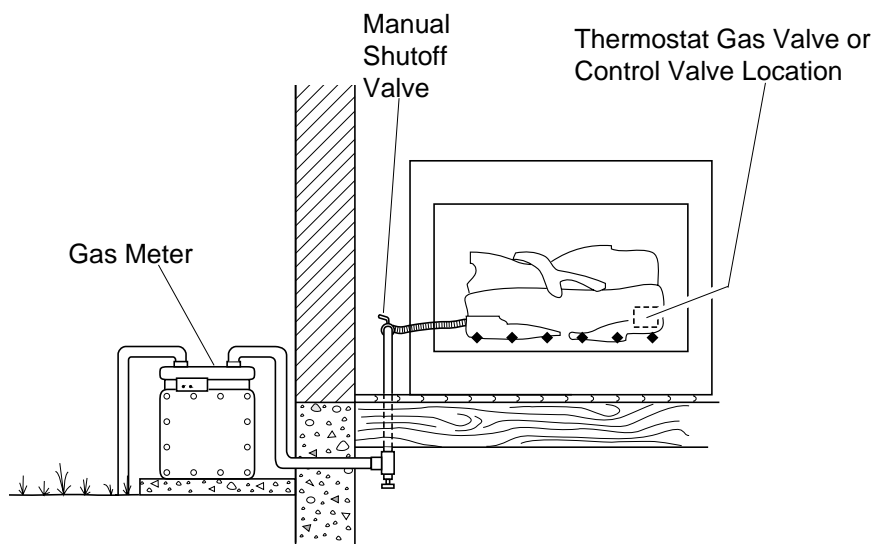

Figure 16 - Checking Gas Joints
3. Check all joints from gas meter to manual shutoff valve (see Figure 16). Apply mixture of liquid soap and water to gas joints. Bubbles forming show a leak.
4. Check all joints from manual shutoff valve to thermostat gas valve (thermostat-controlled models) or control valve (manually-controlled models) (see Figure 16). Apply mixture of liquid soap and water to gas joints. Bubbles forming show a leak.